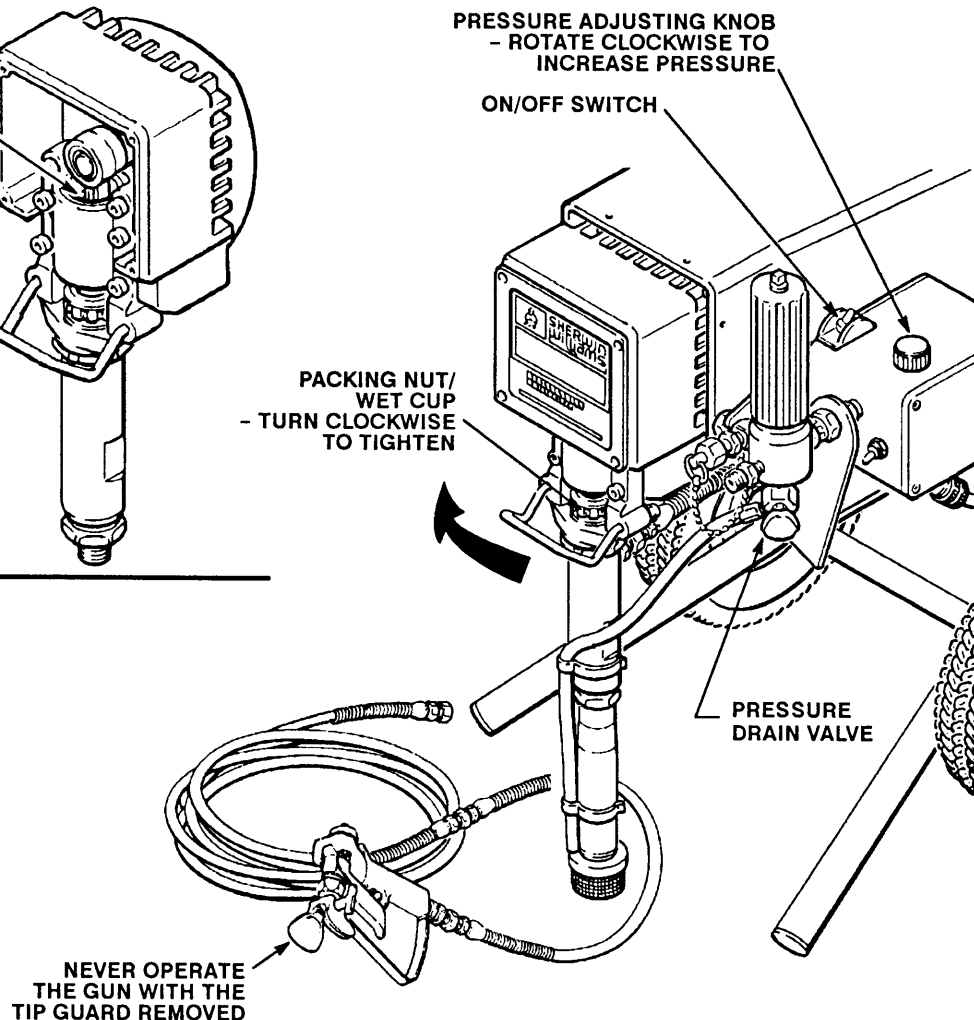

Fig 4
NOTE: See Fig 4 except where noted.
2. **Keep the packing nut just tight enough to stop leakage.** See Fig 4. Overtightening causes binding and excessive packing wear. Use a round punch or brass rod and light hammer to adjust the nut.